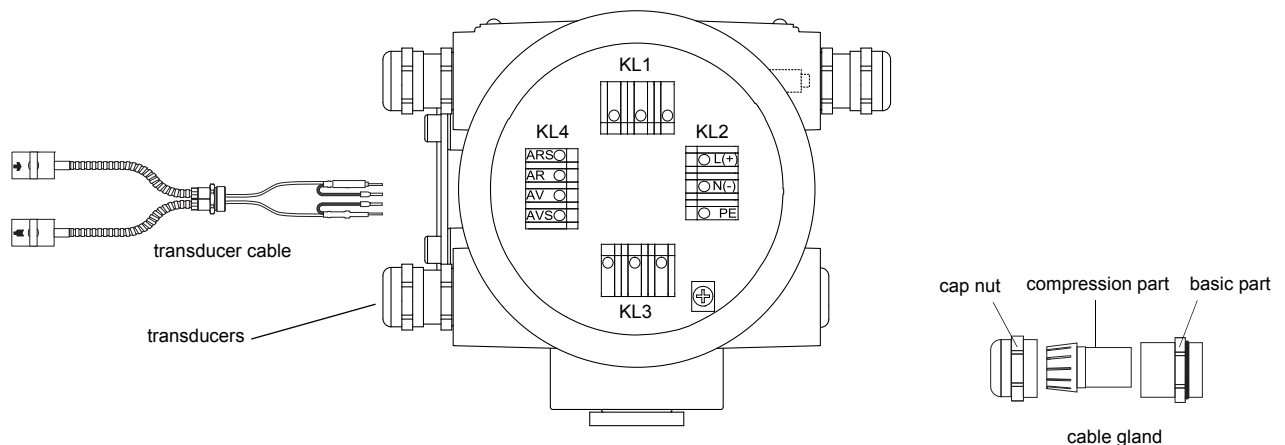

Fig. 6.5: Connection of the transducer cable
- Remove the left blind plug for the connection of the transducer cable (see Fig. 6.5).
- Connect the transducer cable to the terminals of the transmitter (see Fig. 6.5 and Tab. 6.1).